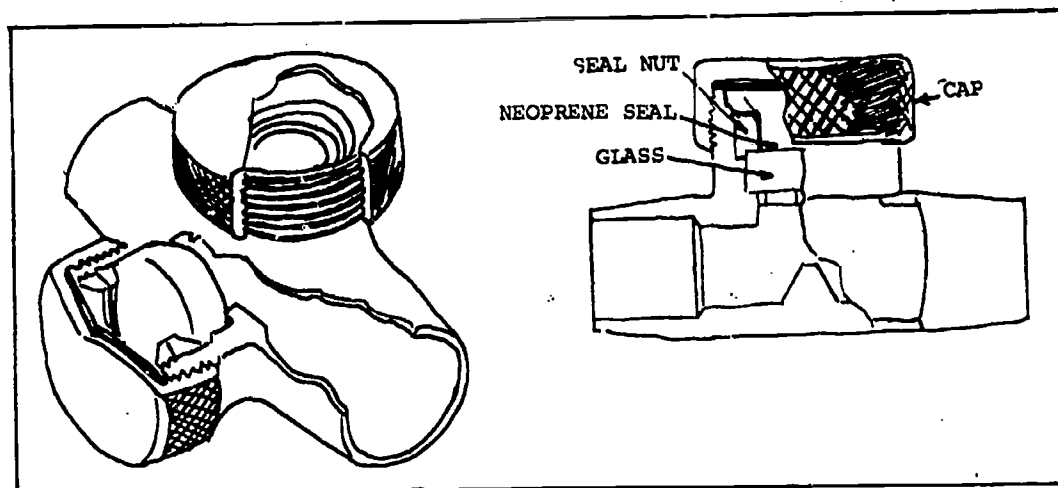

Fig 2-19. Liquid sight glass.
c. Sight glass (fig 2-19). There are two types of sight glasses. One is an oil sight glass which is installed in the compressor crankcase to provide a visual means of checking the oil level. The other is a liquid sight glass, so named because it is installed in the liquid line between the receiver and the metering device, after the drier. It is used to indicate the amount of refrigerant in a system and to determine the condition of the charge. If the unit is fully charged, the sight glass will appear perfectly clear. If it is undercharged, bubbles will appear.